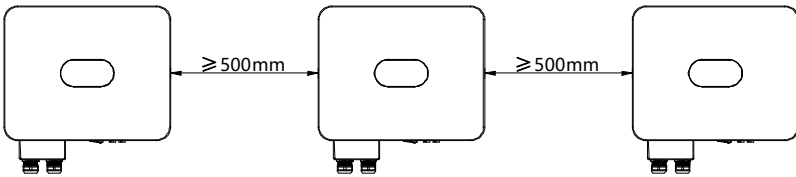

Fig. 4.5 Installation Dimension of Side-by-side Inverters
(3) To install more than one inverter, please keep a certain distance between the inverters and at the top/bottom of the inverters (see Fig. 4.5), so as to facilitate heat radiation.